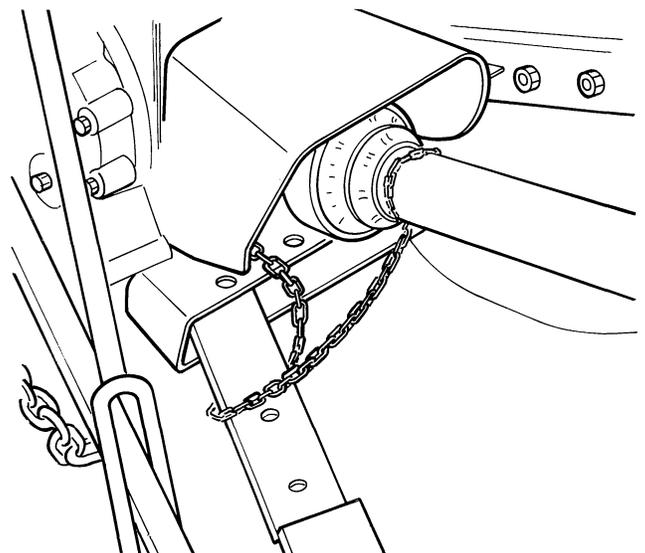

Figure 12
7. Attach the driveline chain and PTO shield as shown in Figure 12.